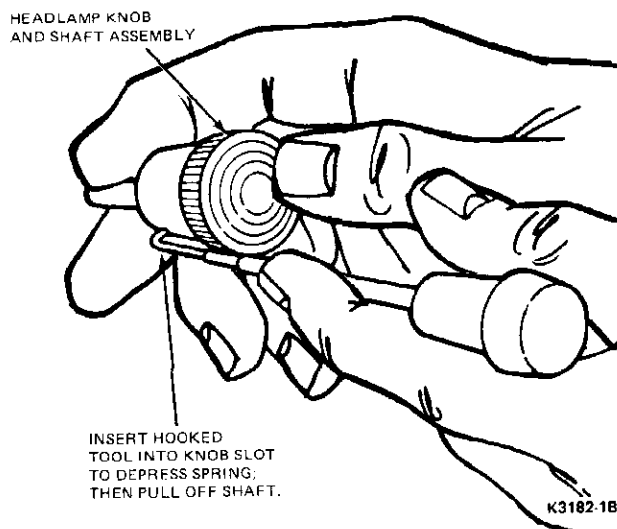

FIG. 6 Removing Headlamp Knob—Ford, Mercury, Monarch, Granada, Versailles and LTD II
1. Bend a discarded bowden cable into the shape shown in Fig. 6.